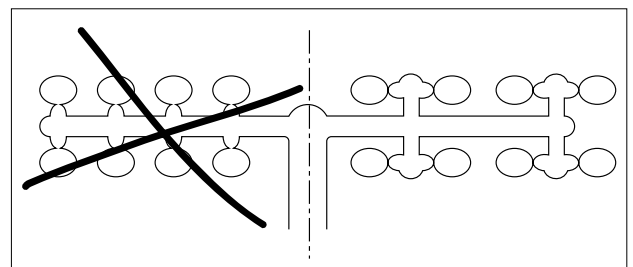

Fig. 4.10 Examples of unbalanced 16-cavity mould. The solution on the right is provided with overflow wells to trap "cold slugs"
When an unbalanced runner system is selected, the layout shown in Fig. 4.10 (left) could present more risks of quality problems. The flow tends to stop at each of the early gates due to the restriction and the material starts to crystallize. Then, as the runner continues to be filled, the pressure rises and the cold slugs which started to be built up, are pushed into the cavity.
To reduce such risk, the solution shown in Fig. 4.10 (right) is recommended. In such configuration, the cold slugs tend to be trapped into each overflow well.
9. For thin parts and large number of cavities, unbalanced runners may be acceptable. However, parts should never be gated directly onto the main runner (see Fig. 4.10).